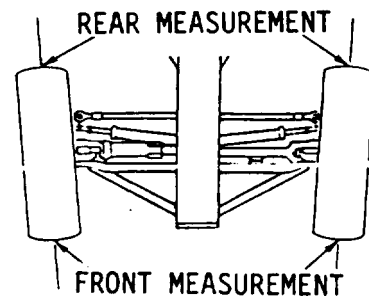

Figure 5-82.
5. Measure distance between front centers and rear centers of tires. Measurement at the front of the tires should be 0.12 to 0.25 inch less than the measurement at the rear of the tires (Figure 5-82).